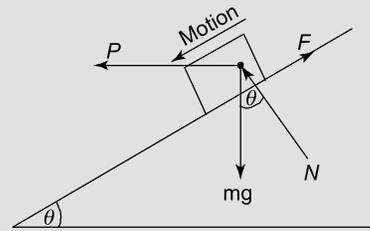

Figure 16.10
Problem 10. If the mass of Problem 9 were subjected to a horizontal force P , acting down the plane, as shown in Figure 16.10, determine the value of P which will just cause motion down the plane.
10. Determine P for Problem 6, if it were acting in the direction shown in Figure 16.10. [$P = 15.43 \text{ N}$]